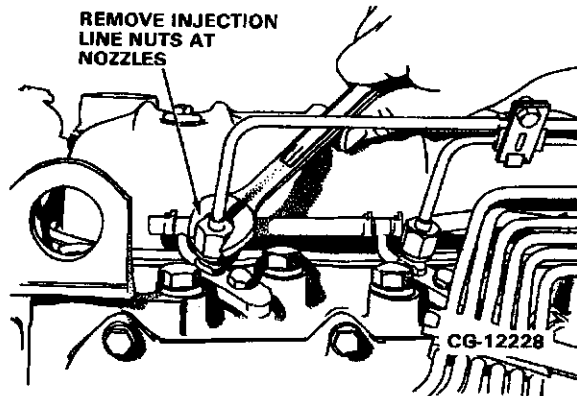

Figure 11.91. Remove Injection Line Nuts at Nozzles
1. Using a 3/4 in. wrench, loosen the six fuel injection line nuts at the nozzles. Refer to Figure 11.91.